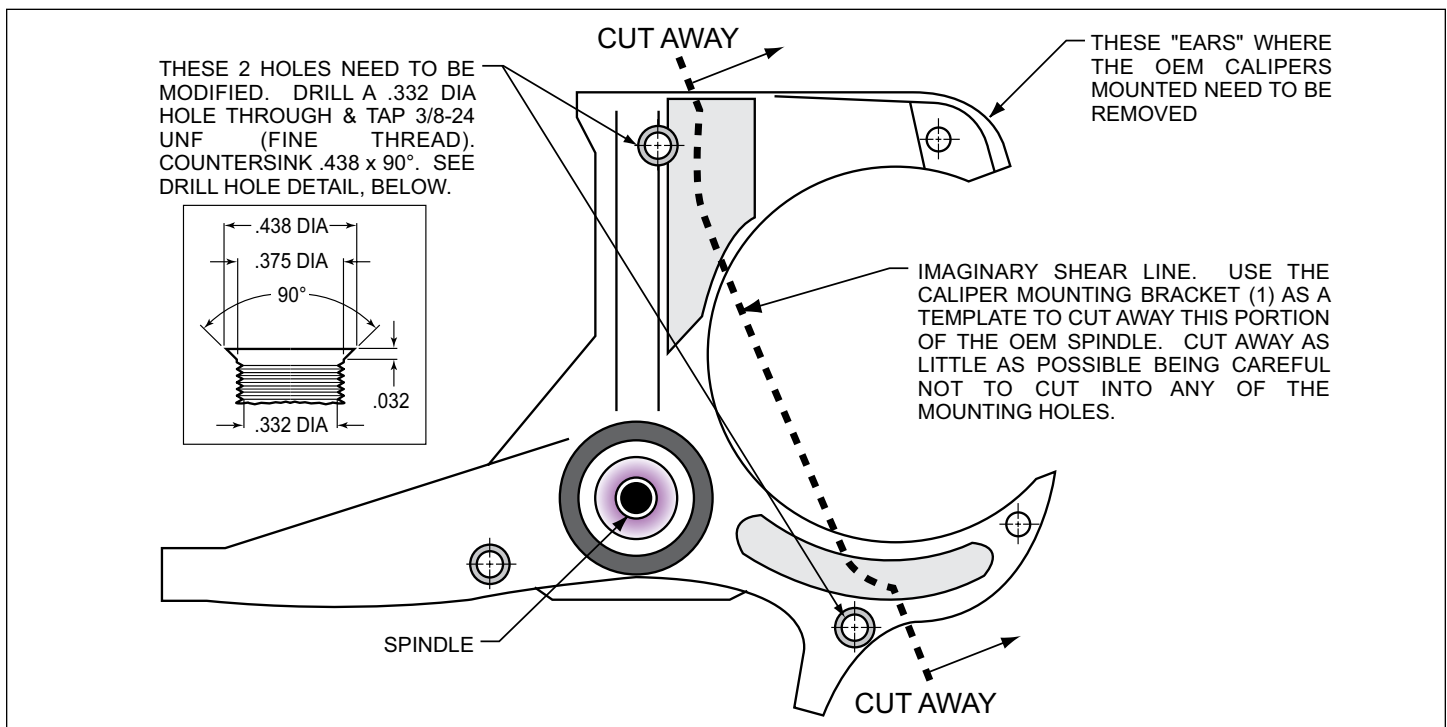
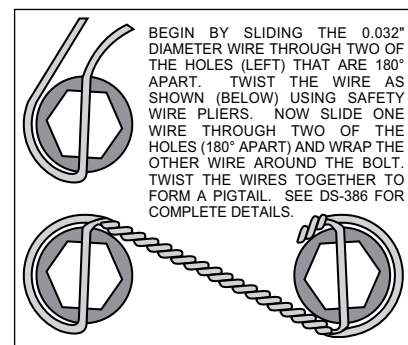

Figure 1. Steering Arm / Spindle Modifications
Figure 4. Safety Wire Diagram
These modifications should be performed by a qualified machinist. Refer to Figure 1 on the following page as necessary (numbers in parenthesis refer to the parts list on page three). Only one view of the steering arm/spindle is shown, but the modifications need to be performed on both steering arm/spindles.
The two stock holes that will be used to mount the caliper mounting bracket (1) need to be modified (figure 1). Drill a .332 diameter hole through both holes, then tap 3/8-24 UNF (fine thread). Countersink the holes to .438 x 90°. The “ears” that protrude to form a “C” shape need to be removed to facilitate the installation of the Wilwood caliper (22). Using the caliper mounting bracket (16) as a template, mark two cut marks on the steering arm. Remove as little as necessary from the “C” shape, being careful not to cut away any of the mounting holes required to bolt on the caliper mounting bracket (1).
- Install five new wheel studs (3) into the hub (4). Torque to 77 ft-lb. **NOTE:** There are two five lug patterns in the hub (5 x 4.50 and 5 x 4.75). Make sure of the correct hole pattern for the correct wheel application before installing studs into hub.
- Pack the large inner bearing cone (5) with high temperature disc brake bearing grease (available from your local auto parts store) and install into the backside of the hub (4).
- Install the grease seal (6) by pressing into the backside of the hub (4).
- Pack the small outer bearing cone (12) with high temperature disc brake bearing grease and install into front side of the hub (4). Slide the hub assembly (4, 5, 6 and 12) onto the spindle. Secure using spindle washer (13), stock adjusting nut, and nut locking device. Adjust wheel bearing pre-load per Original Equipment Manufacturer (OEM) specifications.
- Install the O-ring (14) and the dust cap (15) into the hub (4). **NOTE:** O-ring (14) friction will not allow cap (15) to unscrew on its own.
- With the larger I.D. side of the rotor (7) facing away from the hat (8), bolt rotor (7) to hat (8) through the backside of the rotor using washers (9) and bolts (10). Using an alternating sequence, apply red *Loctite*® 271 to the threads and torque bolts to 155 in-lb. For an added measure of security, the bolts may be safety wired using standard 0.032 inch diameter stainless steel safety wire as shown in Figure 4. Please refer to Wilwood's data sheet DS-386 (available at [www.wilwood.com/Pdf/DataSheets/ds386.pdf](http://www.wilwood.com/Pdf/DataSheets/ds386.pdf)) for complete safety wire installation instructions.
- Slide the rotor/hat assembly over the studs (3) in the hub (4) taking care to align the small countersunk holes in the hat (8) with the small threaded holes in the hub (4). Install three flat head socket head screws (11) through the small holes in the hat (8) and torque to 85 in-lb. Check to be sure the hat seats squarely against the hub face.
- **NOTE:** Please reference the caution statement at the beginning of the assembly instructions. The caliper mount brackets (16) should be installed first with clean, dry threads on the mounting bolts (17). Place sleeve (19) into the holes on the radial mount caliper bracket (16). Install the radial mount caliper bracket (16) on the backside on the flat caliper bracket (1) by sliding bolt (17) through washer (18) and through the bracket holes. Place spacer (20) and shim washer (21) between the two brackets and screw bolt (17) into insert nut on the flat caliper bracket (1). Finger tighten bolt (17). Use one thin shim (21) between the two brackets (1 and 16) during initial trial fitting.
- **NOTE:** This kit contains distinct right and left hand calipers that must be mounted in a specific direction, as described below. Lubricate the caliper mounting studs (23) with lightweight oil. Initially place two .030" thick shims (25) and spacer (24) on each stud as shown in Figure 1. Mount the caliper (22) onto the bracket (16) using lock nuts (27) and washers (26), Figure 1. Ensure that the caliper is mounted so that the largest pistons are at the rotor exit end of the caliper, in relation to the direction of rotor rotation. Temporarily tighten the lock nuts.
- View the rotor (7) through the top opening of the caliper (22). The rotor (7) should be aligned in the center of the caliper (22). If not, adjust the radial mount caliper bracket (16) by using shims (21 and/or 29) placed between the two brackets (1 and 16). Add as many shim washers (21 and/or 29) as necessary to achieve the correct alignment. Always use the same amount of shims on both the top and bottom radial mount caliper mounting bolts (17). Finger tighten and recheck alignment, adjust as necessary. Apply red *Loctite*® 271 to bolt threads (17) and torque to 47 ft-lb.